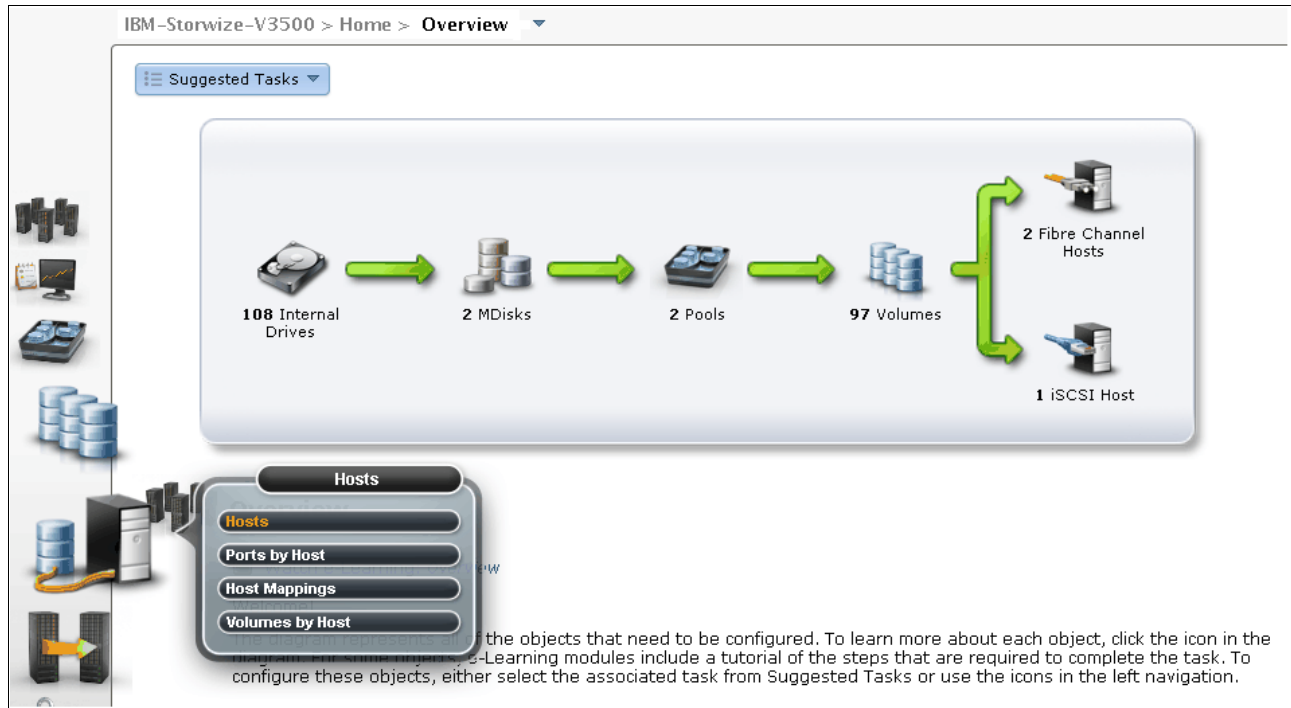

Figure 4-16 Open the host window
1. Open the host configuration window by clicking **Hosts**, as shown in Figure 4-16.